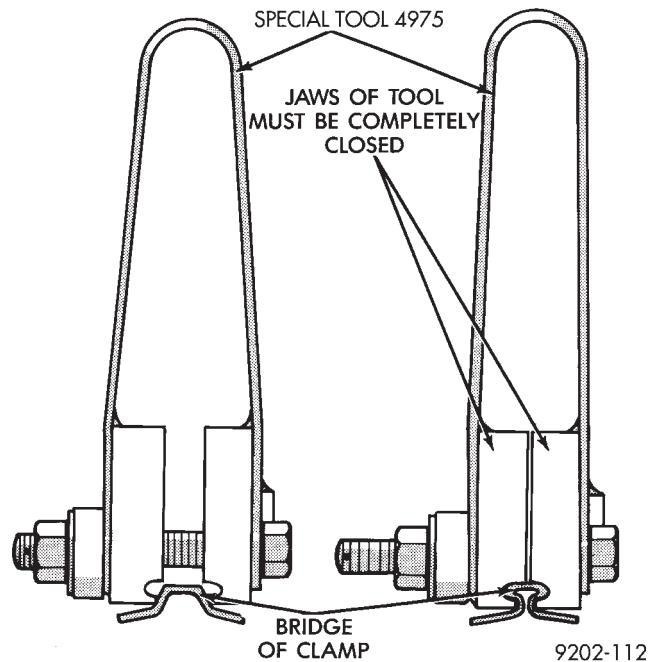

Fig. 15 Closing Clamp Bridge
- (3) Position boot clamp evenly over boot. Place clamp installer Tool C-4975 over bridge of clamp and tighten the nut until the jaws of the tool are closed completely, face to face (Fig. 15).
(4) After attaching the boot to the shaft. Install the C/V joint following the procedure outlined under **Inner C/V Joint Assemble** or **Outer C/V Joint Assemble**.
(5) Position the large end of boot on housing and install clamp, crimp bridge of clamp with Crimper, Special Tool C-4975.